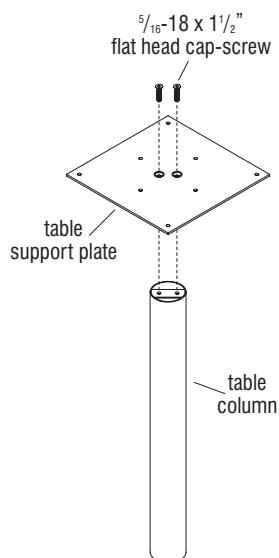

Figure 1
1. Carefully remove contents from packaging and view Figures 1 & 2 to familiarize yourself with the table base parts. The table support plate ships attached to the base plate with two shipping bolts and nuts. Disassemble the two plates and discard the shipping bolts and nuts.
2. Position the table support plate as illustrated over the table column. Make sure the tapered, counter-sunk holes in the plate are facing up for the screw heads to nest into. Attach the plate to the column using two 5/16-18 x 1 1/2" flat head cap-screws provided. Using a 3/16 hex driver, tighten screws to between 20 and 25 foot pounds of force (Figure 1).